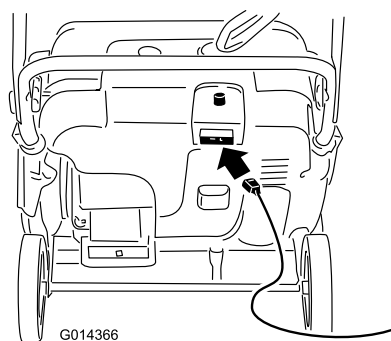

**Figure 16**
3. Firmly push in the primer 3 times with your thumb, holding the primer in for a second before releasing it each time (Figure 16).